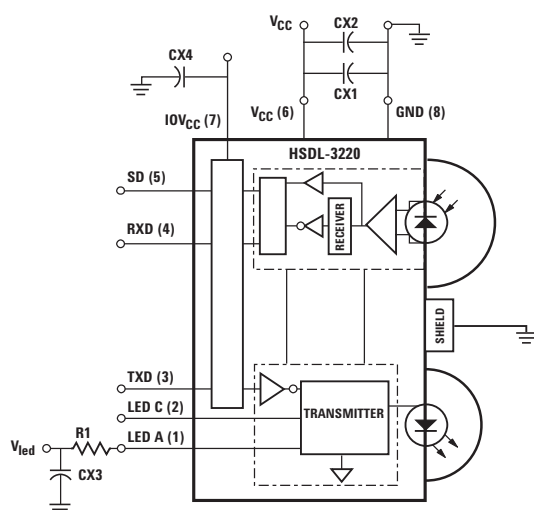

Figure 1. Functional block diagram of HSDL-3220.
11. In environments with noisy power supplies, including CX2, as shown in Figure 1, can enhance supply ripple rejection performance.